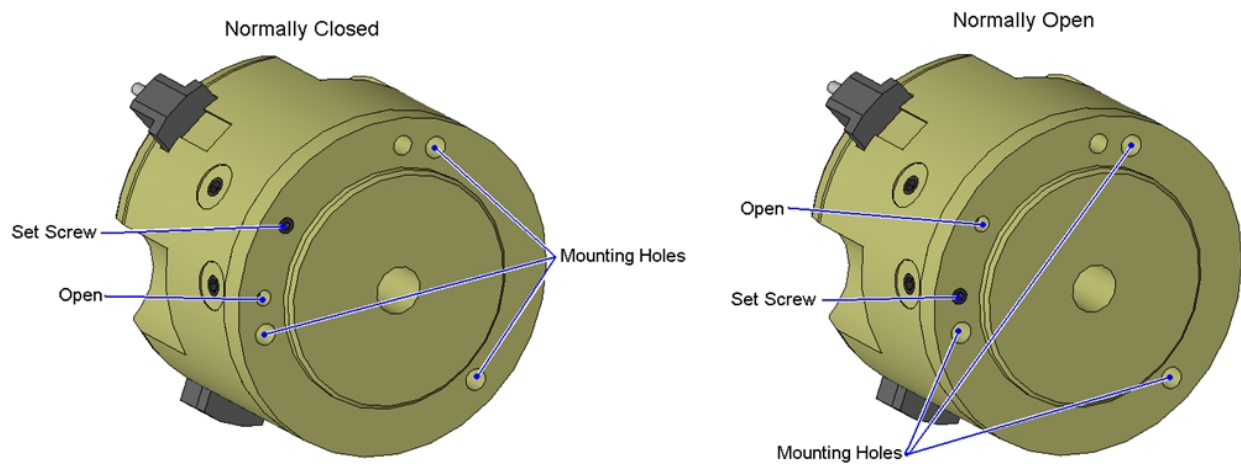

Figure 4-16: Air Inlets in Three-Jaw Grippers
3. Figure 4-16 shows the locations of the set screws in the gripper based on which configuration is desired. Move the set screws as necessary.